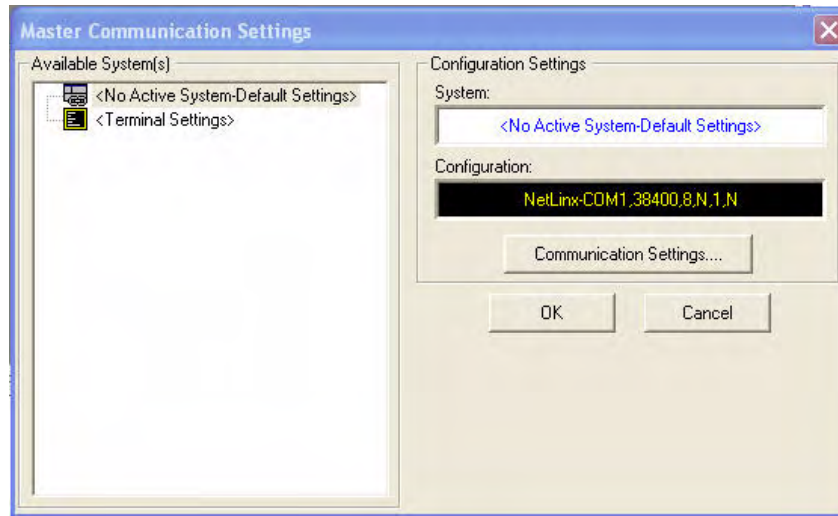

FIG. 34 Master Communications Settings dialog box
- In NetLinx Studio, select **Settings > Master Communication Settings** from the Main menu to open the *Master Communication Settings* dialog (FIG. 34).